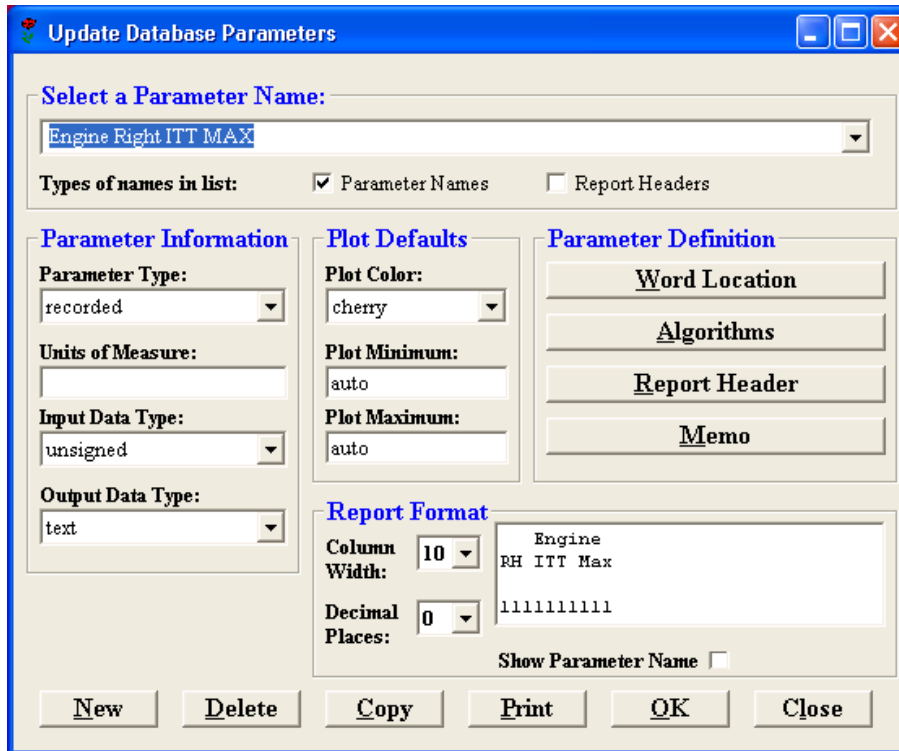

Fig. 12
2. Overwrite *Engine Right IELU Intervention* to *Engine Right ITT MAX*. Perform the update according to the *Water Injection* parameter modification, points 2 to 7. Particular items update according to the Fig. 12 to 16.